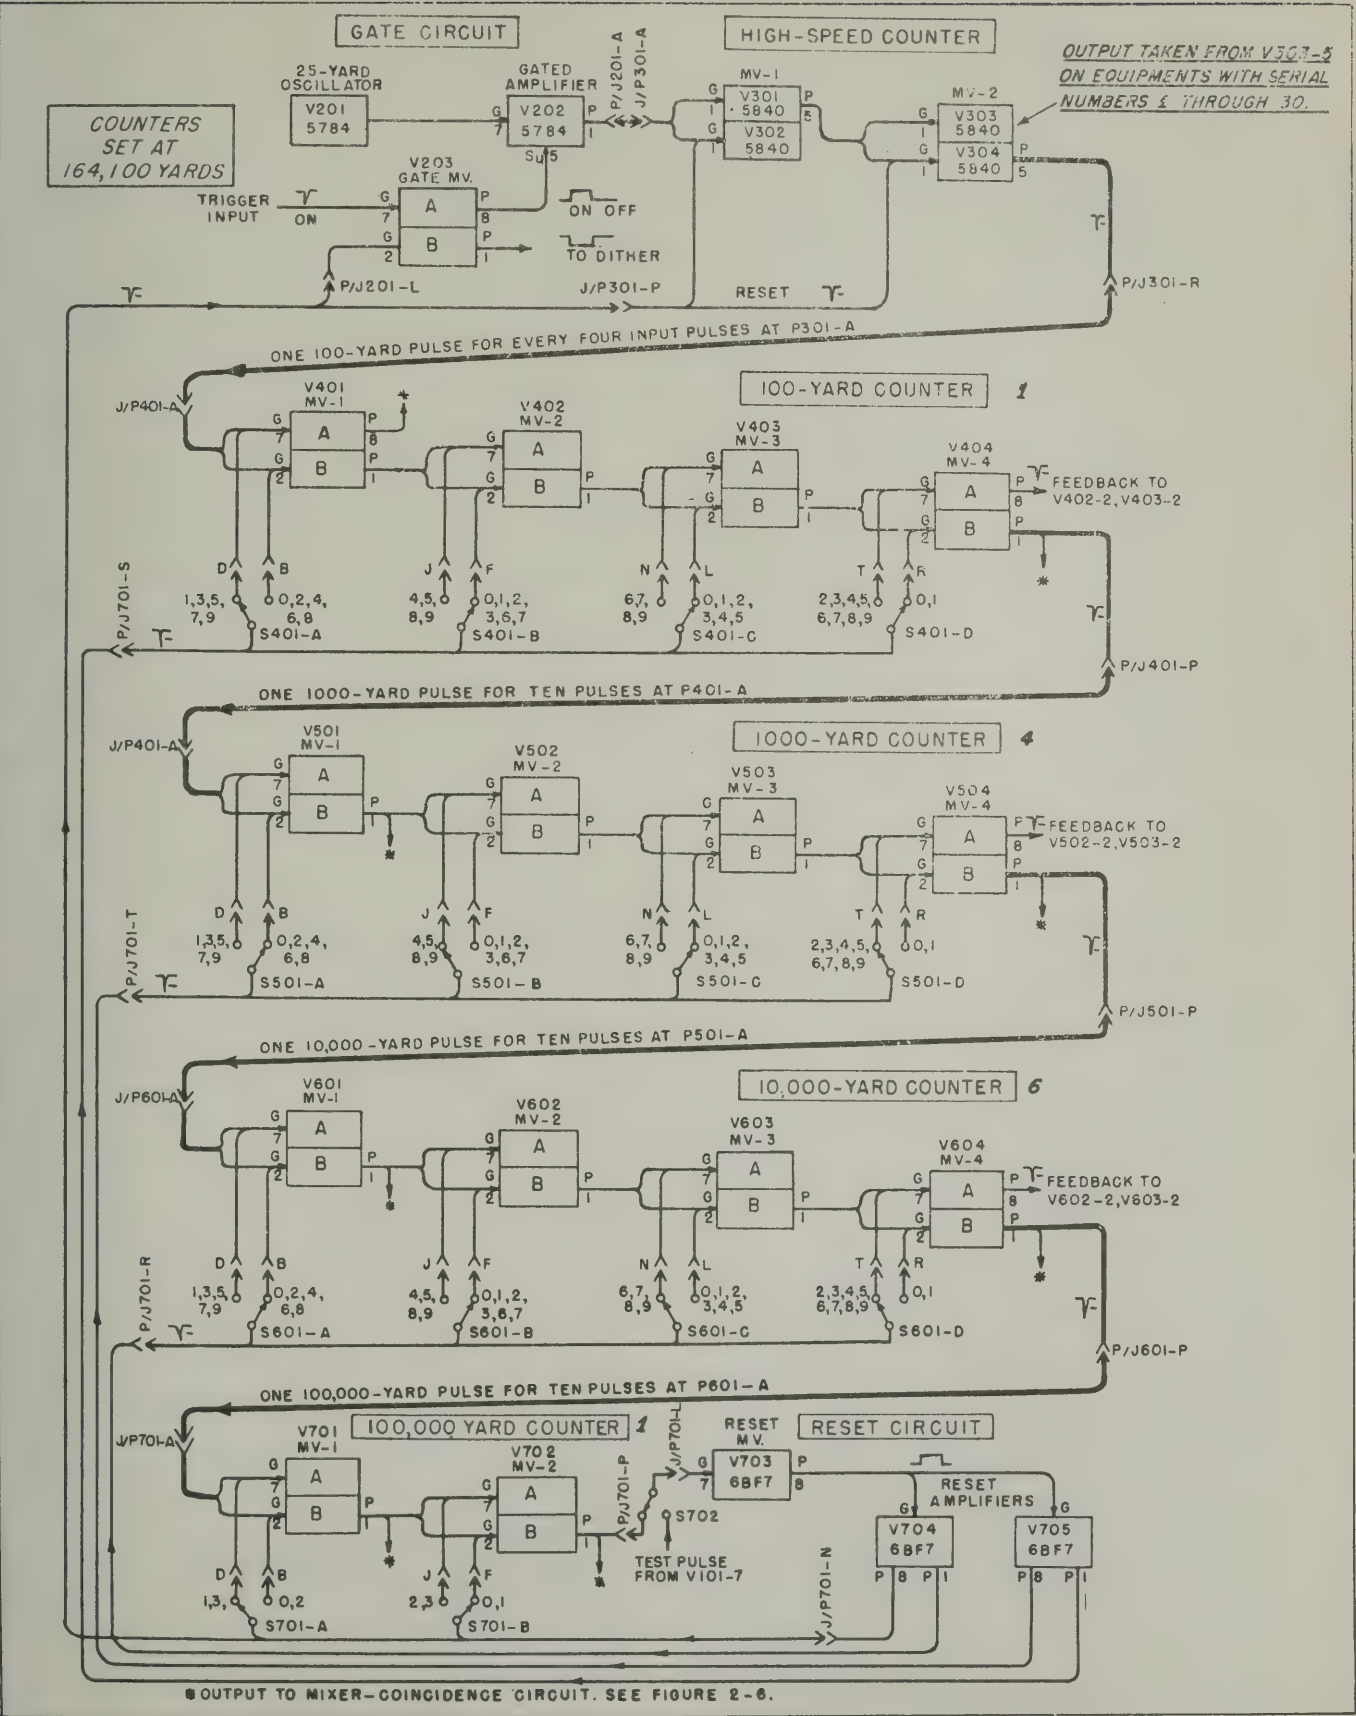

Figure 2-5. Range Counting and Reset Diagram
(2) RESETTING CIRCUIT.—The resetting circuit includes one multivibrator stage and two twin-triode amplifiers on terminal board E701. Refer to figure 2-5. The counting network reaches its coincidence during its terminal count. When it receives the next 100-yard input pulse, each of the four adjustable counters advance to their zero count. At this point, and only at this point, the plate of the second binary stage V702 on E701 is driven negative. This negative signal through test switch S702, triggers the monostable multivibrator stage V703. The positive multivibrator output drives the non-conducting four triode sections of reset amplifiers V704 and V705, and the resultant four negative output pulses reset the counting and associated circuits. The outputs of V705 reset the 100-yard and 1000-yard counters E401 and E501, to the count corresponding with their respective dial switch selections. Likewise, the negative output pulses of V704